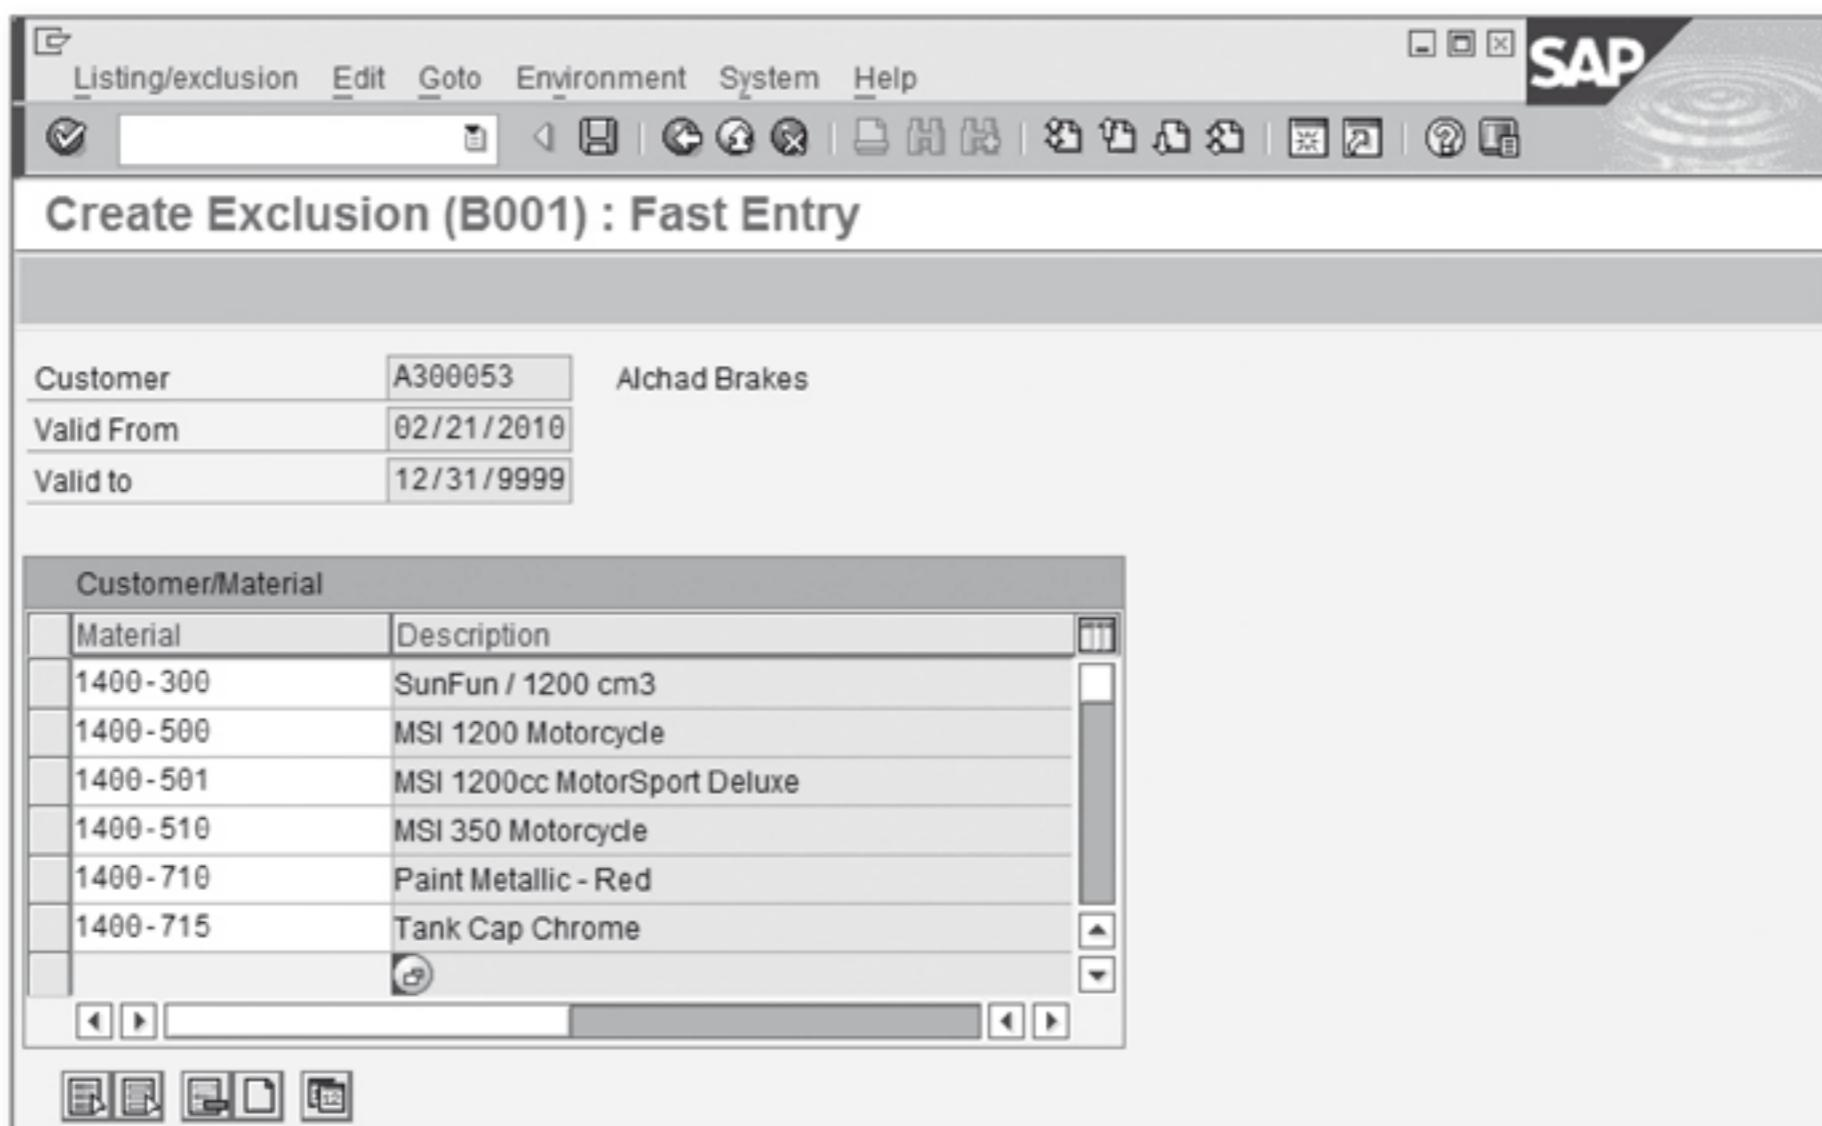

Figure 2.16 Create Exclusion Fast Entry Screen
3. On the detailed screen, enter the customer number, validity period, and the list of materials you want to prevent this customer from buying, as shown in Figure 2.16.